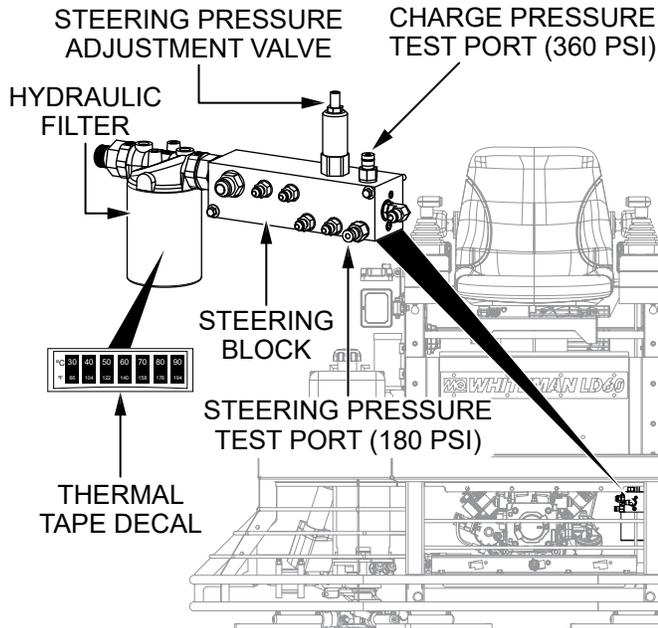

Figure 45. Steering Block Charge Pressure And Steering Pressure Components
Check the charge pressure at the **charge pressure test port** (Figure 45) on the **steering block**. Access the steering block beneath the platform at the front of the trowel.
3. Using a Parker PD242 diagnostic test port coupler, connect a 300–600 psi pressure test gauge to the **charge pressure test port** (Figure 45) on the **steering block**.
6. Allow the hydraulic system to warm up to 140°F (60°C). Hydraulic temperature is indicated by the **thermal tape decal** (Figure 45) on the **hydraulic filter**.
Check the steering pressure at the **steering pressure test port** (Figure 45) on the **steering block**. Access the steering block below the platform at the front of the trowel, beneath the foot pedal.
3. Using a Parker PD242 diagnostic test port coupler, connect a 300–600 psi pressure test gauge to the **steering pressure test port** (Figure 45) on the **steering block**.
Remove the protective cap on the **steering pressure adjustment valve** (Figure 45) and adjust the steering pressure as needed. Replace the protective cap and reinstall the front platform when finished.